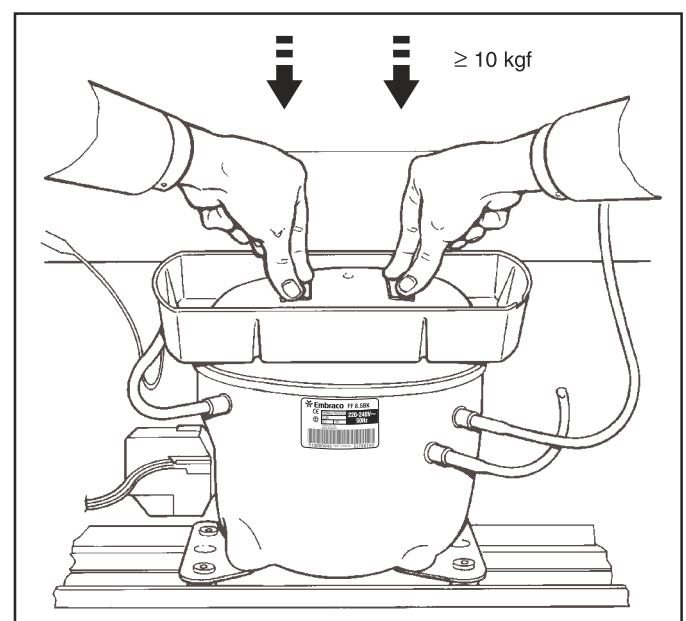

Figure 4
- 4) Fix (fasten) the tray to the compressor by applying slight perpendicular pressure equaling or superior to 10 kgf on the top of tray (above the area where the tape had been placed), according to figure 4.